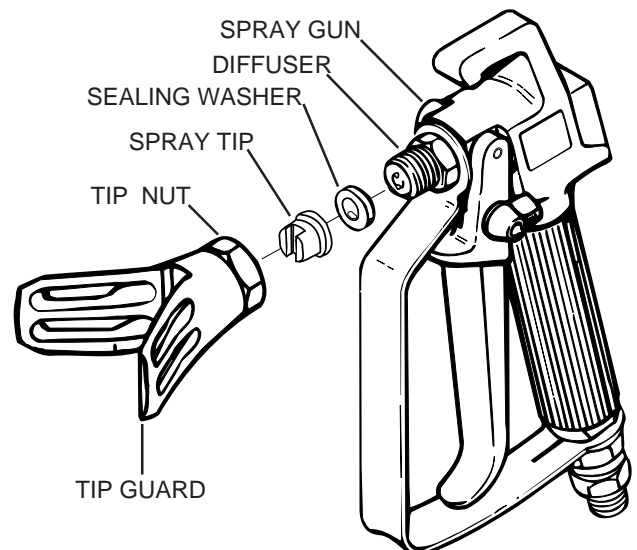

Figure 3.-Spray Tip Assembly Sequence.
1. Insert the spray tip and sealing washer into the tip guard so that the flats of the spray tip are seated perfectly into the tip guard. See Figure 3.
4. Remove tip guard assembly with spray tip and sealing washer from spray gun as shown in Figure 3, page 10.